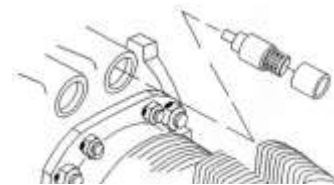

Figure 41
- (1) For each of the two shroud tubes, install the plunger assembly and hydraulic socket in the tappet bore in the crankcase (Figure 41).
- (2) Rotate the crankshaft to move both installed plunger assemblies and hydraulic sockets to their lowest position in the tappet bores in the crankcase.
- (3) Apply engine oil mixture (15% pre-lubricant (STP or equivalent) and 85% SAE No. 50 mineral base aviation grade lubricating oil) to all four of the shroud tube seals, two for each shroud tube.